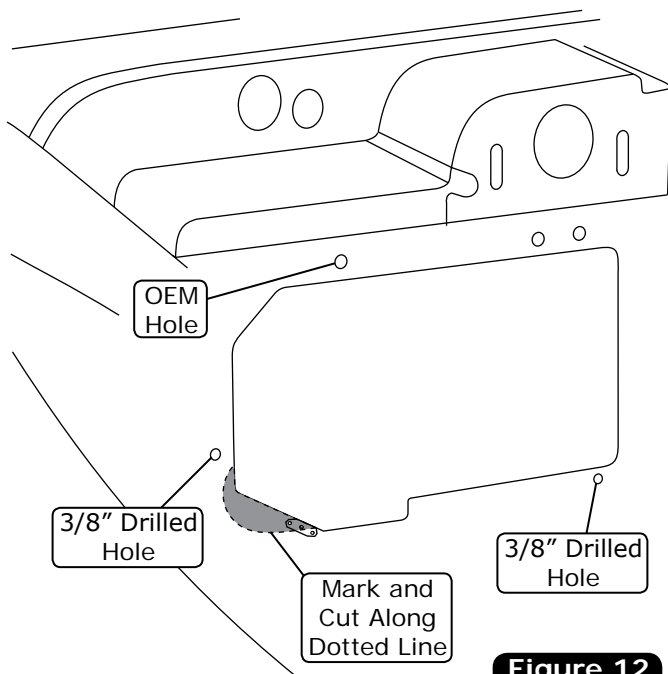
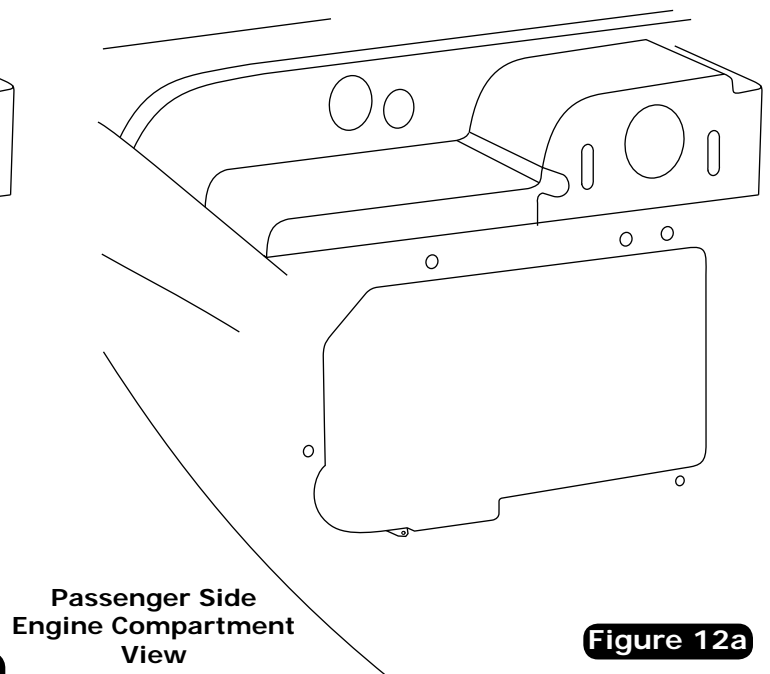

Figure 12
Figure 12a
1. Working in the engine compartment, place the supplied firewall cover against the opening in the firewall. Align the firewall cover's bolt holes with the (2) previously drilled lower holes and (1) upper OEM hole in the firewall (See Figure 12, below).
2. Using a paint pen or marker, and the firewall cover as a template, mark the firewall along the inside edge of the large hole in the firewall cover to indicate the portion of the firewall that will need to be removed to allow clearance for the A/C and heater lines (See Figure 12, below).
3. When the firewall has been marked as shown in Figure 12, below, remove the marked area from the firewall (See Figure 12a, below).